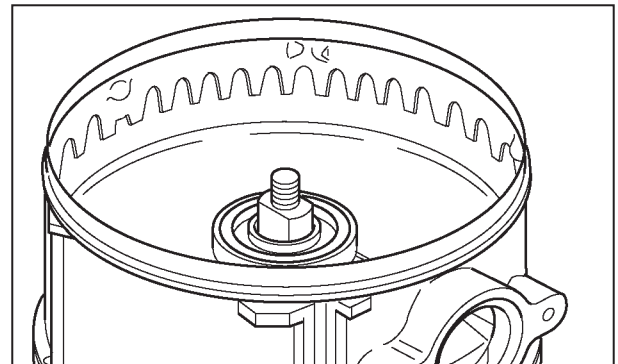

Figure 4.13
17. Seat upper end bell on rotor shaft assembly so rotor shaft shoulder protrudes through upper end bell approximately 3/4" (see Figure 4.13).